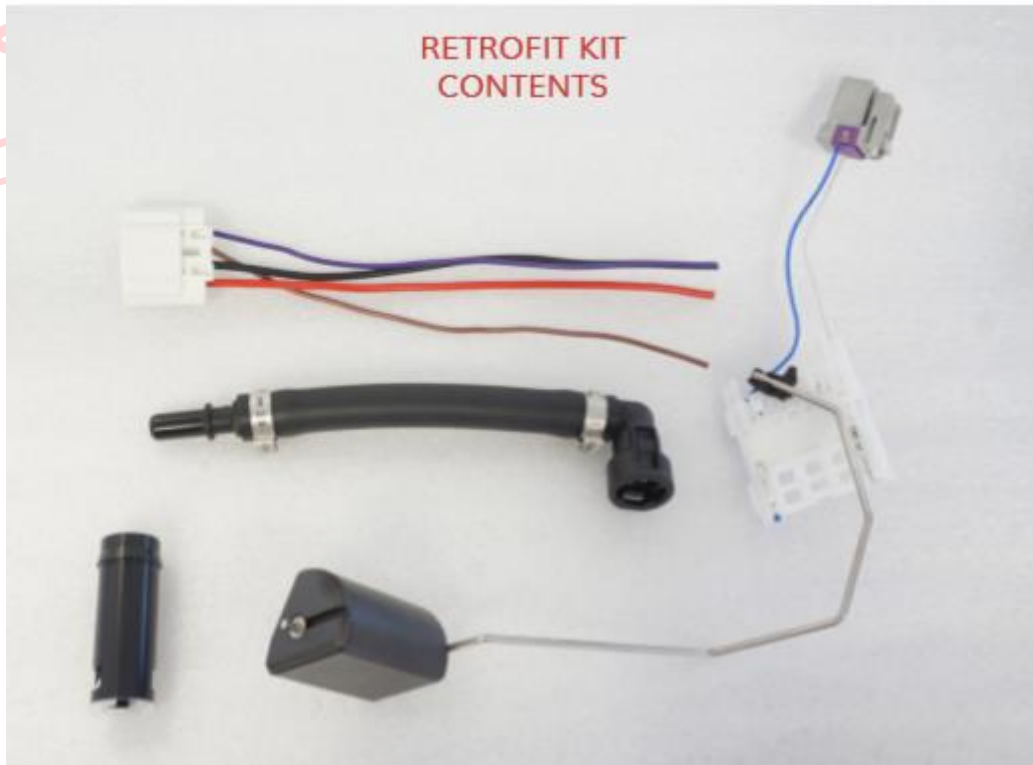

FIGURE 4
- 3) Noting the wiring diagram colours, solder the new electrical connector and wires in place of the old wiring and connector as per diagram. FIGURE 4